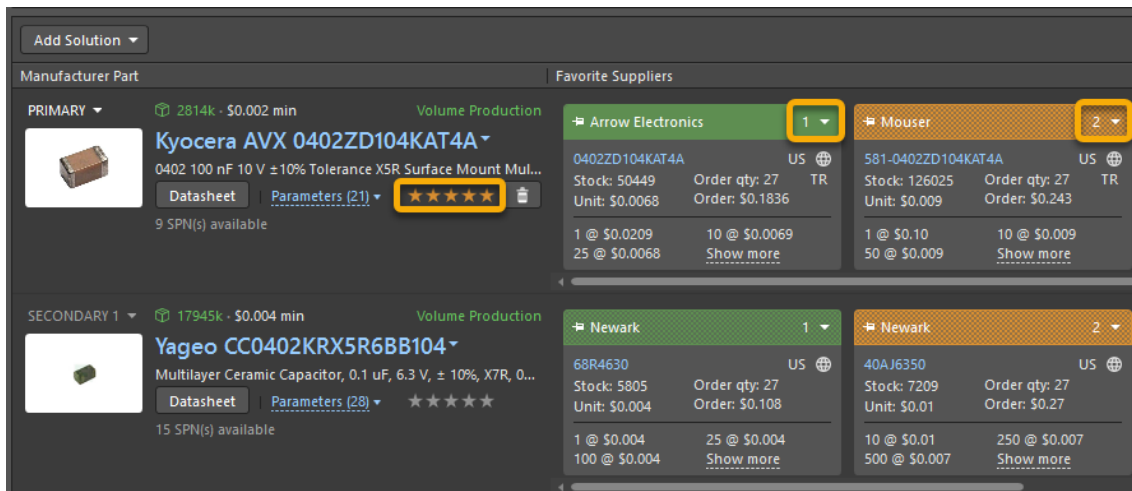

Figure 12b. Ranking solutions for the Preferred Supplier
- Click on the **Position Number** and select, for example, **1**, as shown in Figure 12b. By selecting 1, you move Arrow Electronics to Position 1, automatically the first Supplier (for example, Arrow Electronics) is now your preferred Supplier for the CAP.